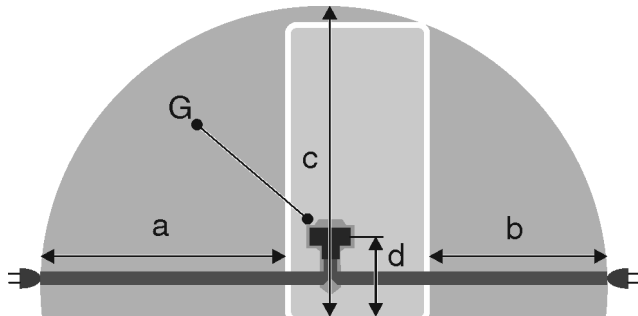

Fig. 53 \*
- Insert the appliance plug *Fig. 53 (G)* on the rear side of the appliance. Ensure that they latch into place correctly.
- The socket is not located behind the appliance but in areas a or b *Fig. 53 (a, b, c)*.